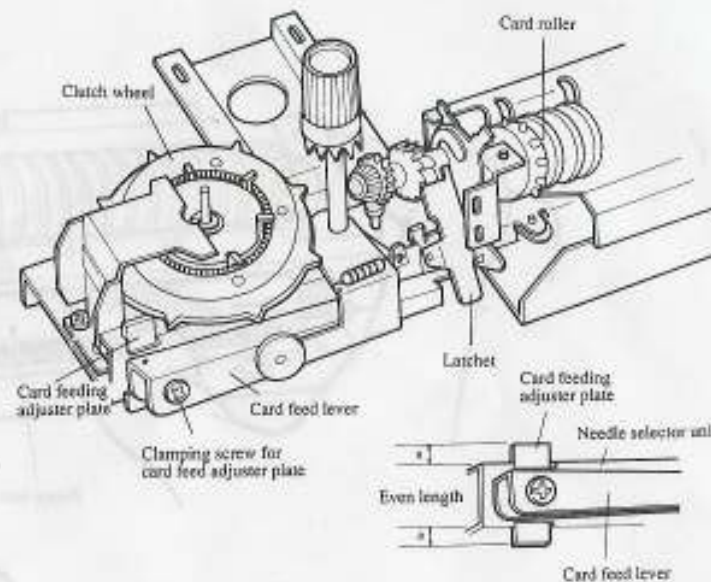

Fig. 20-13
- 5.3 Adjust the card feeding adjuster plate so that the length of upper and lower sides of the needle selector unit will become even. (Fig. 20-13)